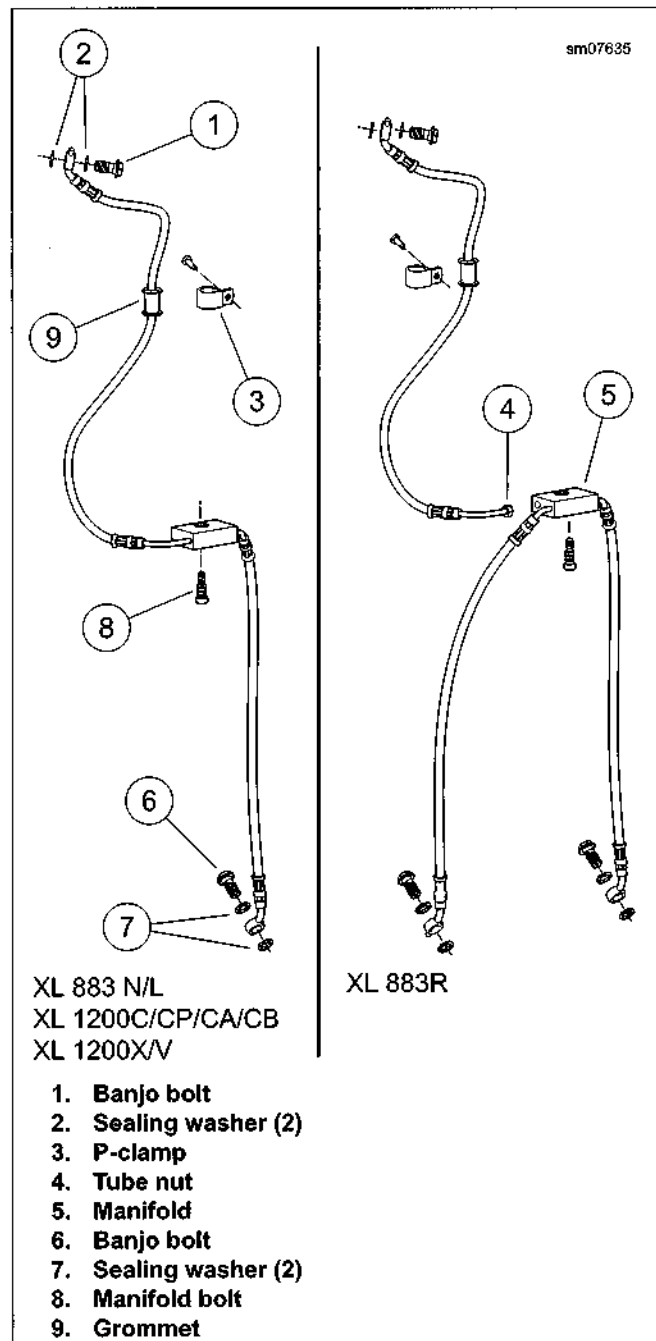

Figure C-7. Brake Line Master Cylinder to Manifold to Caliper
3. See Figure C-7. Remove master cylinder banjo bolt (1) and sealing washers (2). Discard sealing washers.
4. Remove P-clamp (3) from upper fork bracket.